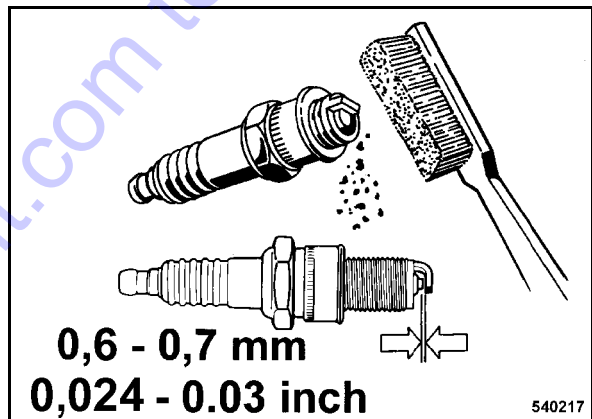

Fig. 37
- Check the spark plug (Fig. 37) visually and clean it if necessary.